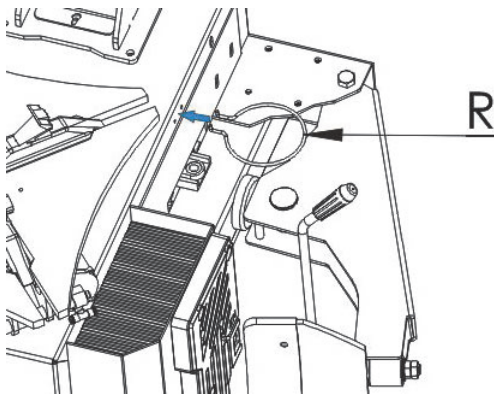

Fig. 9
- As fig.9 Insert the two heads into two $\phi 5$ holes in the right side of column, make sure I heads, hook is upward.